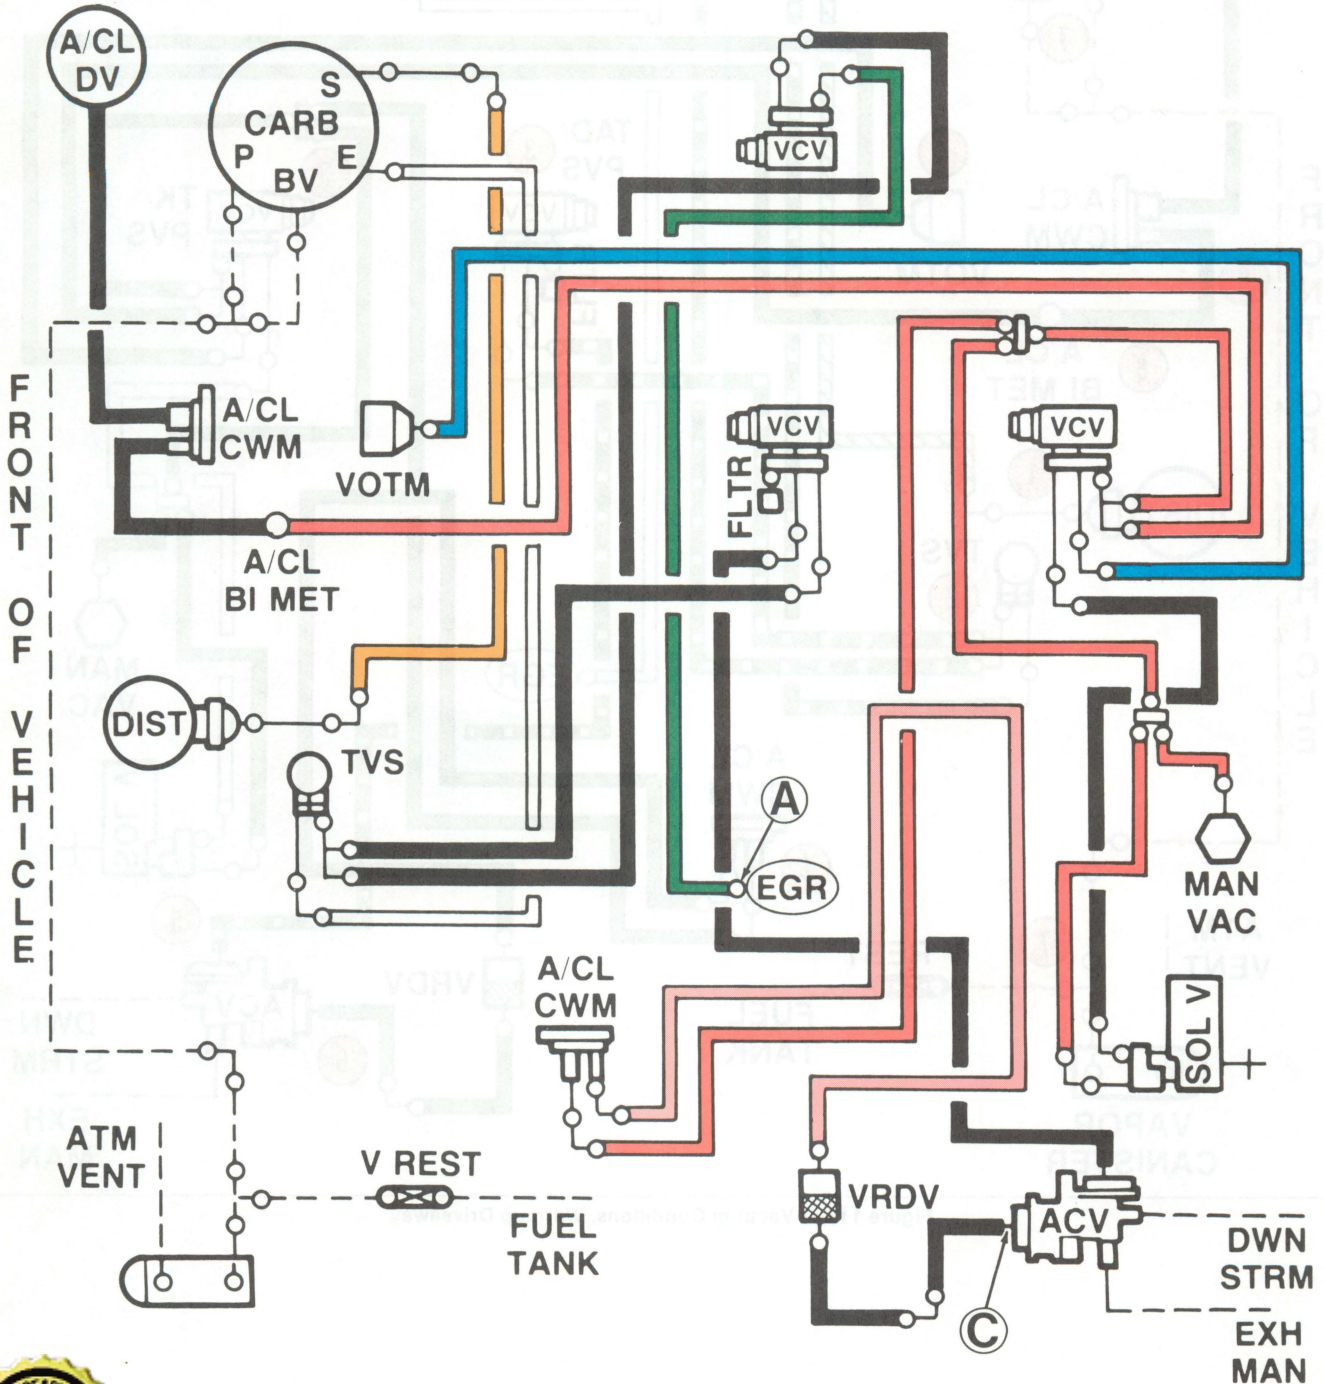

Figure 111 — Vacuum Hose Routing
Figures 111 and 112 must be used to answer quiz questions.
1. **Refer to Figure 111.** The red circuit is:
2. **Refer to Figure 111.** The distributor vacuum advance diaphragm (DIST) is controlled by the: